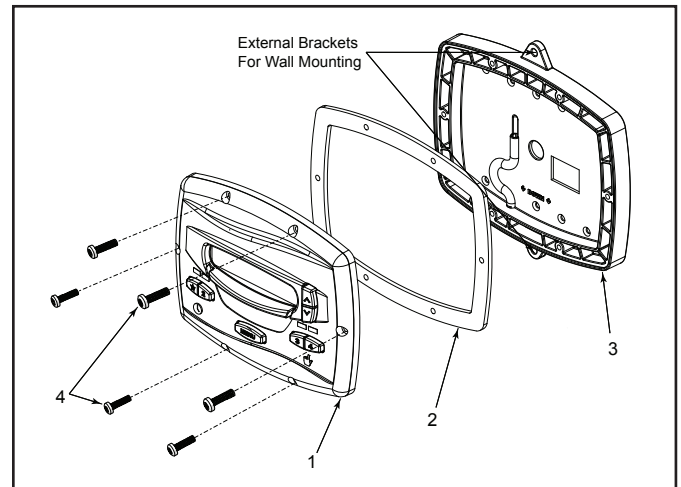

Figure 3. Controller Components
The controller assembly contains the following components. See "Figure 3. Controller Components":
3. Carefully detach the backplate from the controller by removing the six (6) screws from the front of the controller. Do not tug on the cable that is attached to the backplate in order to avoid damage to the cable or terminal block.
4. The backplate has nine (9) mounting holes to choose from. Only drill out the plastic film from the holes to be used. See "*Figure 3. Controller Components*".
3. A minimum of two (2) fasteners (installer supplied) are required when installing to a flat wall to hold the controller securely.
4. The backplate has two (2) mounting holes on the top and bottom. By using the external mounting holes, you do not need to remove the backplate from the controller. See "*Figure 3. Controller Components*".
2. Disassemble JEP-R controller from the backplate by removing the six screws. See "*Figure 3. Controller Components*".